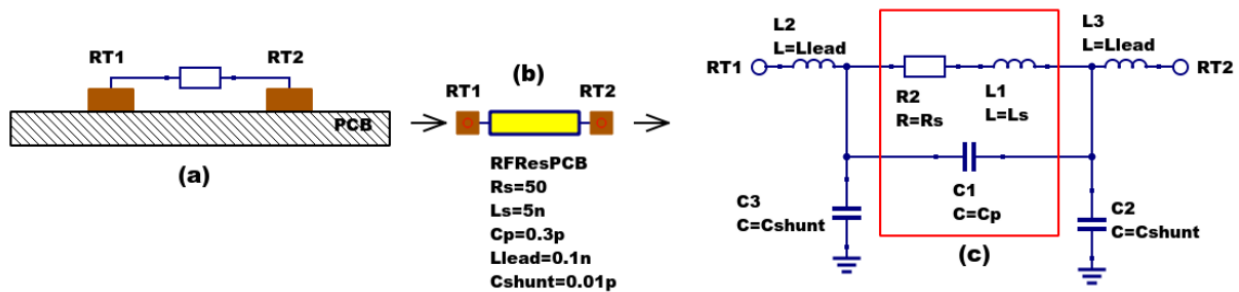

Figure 2 - PCB mounted resistor: (a) axial component mounting, (b) Qucs symbol and (c) equivalent circuit model.
The schematic symbol, I/V equation and parameters of the Qucs linear resistor model are shown in Figure 1. In contrast to this model Figure 2 illustrates the structure of a printed circuit board (PCB) mounted metal film (MF) axial RF resistor (a), its Qucs schematic symbol (b) and its equivalent circuit model (c). A thin film surface mounted (SMD) resistor can also be represented by the model shown in Figure 2 (c).
At signal frequencies where the largest dimension of an axial or SMD resistor is less than approximately 20 times the smallest signal wavelength a resistor can be modelled by a lumped passive circuit consisting of a resistor **Rs** in series with a small inductance **Ls** with the combination shunted by parasitic capacitor **Cp**. In Figure 2 **Rs** is the nominal value of resistor at its parameter extraction temperature **Tnom**, **Ls** represents the inductance associated with **Rs** where the value of **Ls** is largely determined by the trimming method employed during component manufacture to set the value of **Rs** to a specified tolerance. Similarly, capacitor **Cp** models a parasitic capacitance associated with **Rs** where the value of **Cp** is a function of the physical size of **Rs**. At RF frequencies it is important, for accurate operation, to add lead parasitic elements to the intrinsic equivalent circuit model shown within the red box draw in Figure 2. In Figure 2 **Llead** and **Cshunt** represent resistor series lead inductance and shunt capacitance to ground respectively.
A typical set of model parameters for a 51  $\Omega$  5 % MF axial resistor are (1) **Ls = 8nH**, **Cp = 1pF**, **Llead = 1nH** and **Cshunt = 0.1pF**. Illustrated in Figure 3 is a basic S parameter test bench circuit for measuring the S parameters of an RF resistor over a frequency range 1 MHz to 1.3 GHz. This example also demonstrates how the real and imaginary parts of a resistor model impedance can be extracted from S parameter simulation data. The graphs in Figure 3 clearly demonstrate that the impedance of the typical MF RF resistor described in previous text and modelled by the equivalent circuit shown in Figure 2 is a strong function of frequency at higher frequencies in the band 1 MHz to 1.3 GHz.
Figure 8 - Qucs device model parameter extraction system applied to a nominal 47  $\Omega$  resistor represented by the subcircuit model illustrated in Figure 2 (c). Fixed model parameter values:  $R_s = R_m = 47.3 \Omega$ ,  $C_{Shunt} = 0.08 \text{ pF}$ ; Optimised values:  $L_s = L = 10.43 \text{ nH}$ ,  $L_{lead} = LL = 1.47 \text{ nH}$ ,  $C_p = C = 0.69 \text{ pF}$ . To reduce simulation time the ASCO cost variance was set to 1e-3. The ASCO method was set to DE/best/1/exp.
Figure 11 - Qucs device model parameter extraction system applied to a nominal 1000  $\Omega$  resistor represented by the subcircuit model illustrated in Figure 2(c).
Figure 13 - Qucs device model parameter extraction system applied to a nominal 100  $\Omega$  SMD resistor represented by the subcircuit model illustrated in Figure 2 (c).
Listed below is an example Verilog-A code model for the RF resistor model introduced in Figure 2 (c). Due to the limitations of the Verilog-A language subset provided by version 2.3.4 of the "Analogue Device Model Synthesizer" (ADMS)4 inductors **Ls** and **Lead** are modelled by gyrators and capacitors with values identical to **Ls** or **Lead**.